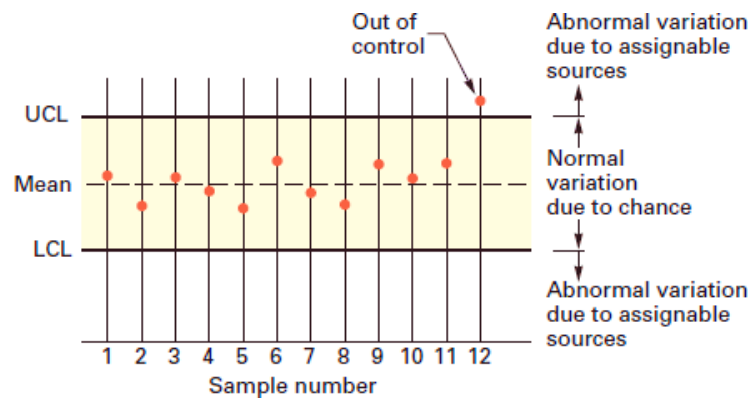

Figure 1. Example of a control chart
A control chart is a time-ordered plot of sample statistics that aims to monitor the causes of output variation. It is used to distinguish random variation and nonrandom variation within a production process. The control chart has two (2) limits called upper control limits (UCL) and lower control limits (LCL) as illustrated in *Figure 1*. A process can be characterized under quality of conformance if the data points fall between the upper and lower control limits. On the other hand, if the data falls outside the control limits, the process may have a random or nonrandom variation that causes the inconsistency in the produced output.